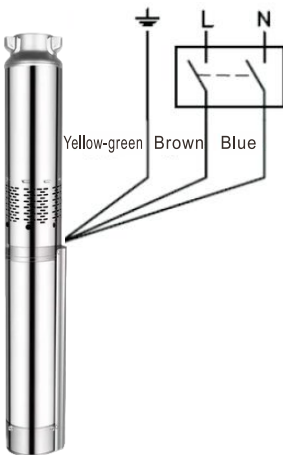

fig. 4-2
4.1.3.1 Single phase built-controller Connect the pump cable wires (Brown, Blue) with AC single phase, yellow-green connecting ground. See fig. 4-2